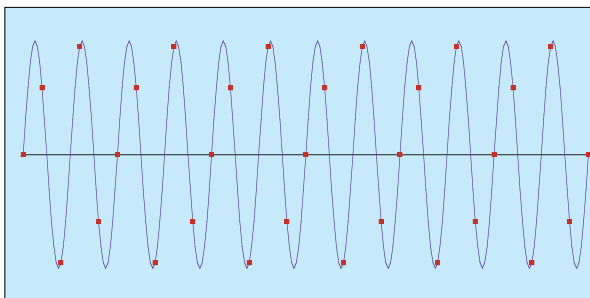

Figure 16: Sampling a 10kHz sine wave at a 25kHz sample rate.
► you sample a sine wave at exactly five times its frequency. If, for the sake of argument, the waveform has a frequency of 10kHz, this represents a sampling rate of 50kHz, and it should be obvious that this is more than sufficient to describe the sine wave accurately. Figure 16 depicts the same situation, except that I have reduced the sampling rate to 25kHz. As you can see, the samples are more widely spaced, but they remain sufficient to define the waveform unambiguously.